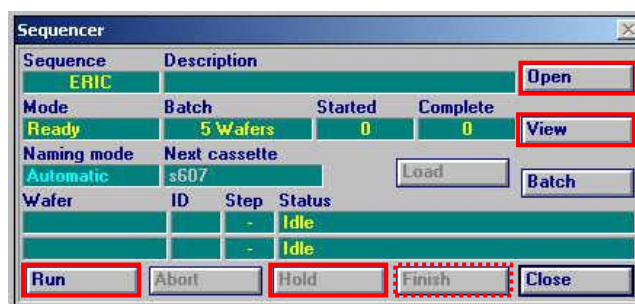

Fig.11: *Sequencer* control window.
5.2.1 In the *Sequencer* control window (Fig.11) press the **Open** button, and **select your sequence** from the pop-up list. This sequence will then appear in the text box in the upper left-hand corner of the sequencer control window.